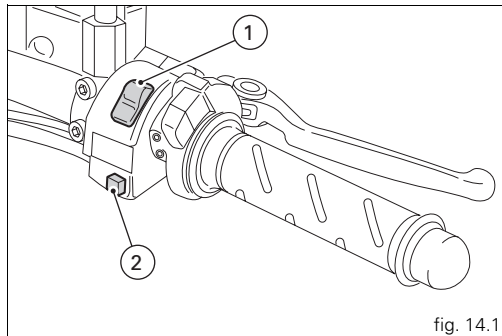

fig. 14.1
- 1) if the code is recognised, the warning light (6, fig. 4.1) on the instrument panel will flash briefly. This means that the immobilizer system has recognised the code and disabled the engine lock. When you press the START (3, fig. 14.1) button, the engine will start up.
## Right-hand handlebar switch (fig. 14.1)